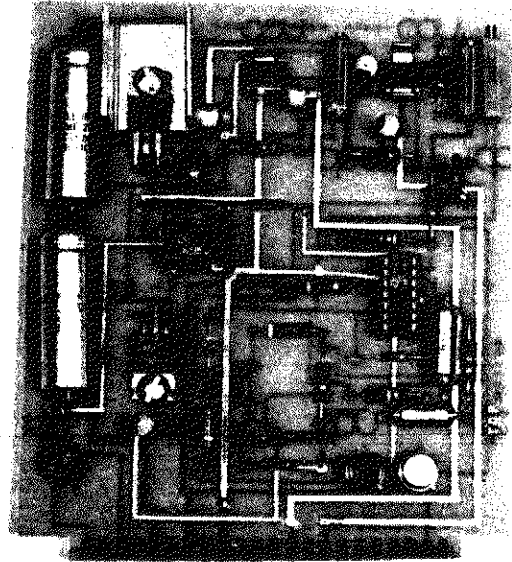

Figure 11. Power Supply Circuit Board
5. The Power Supply Board (Figure 11)